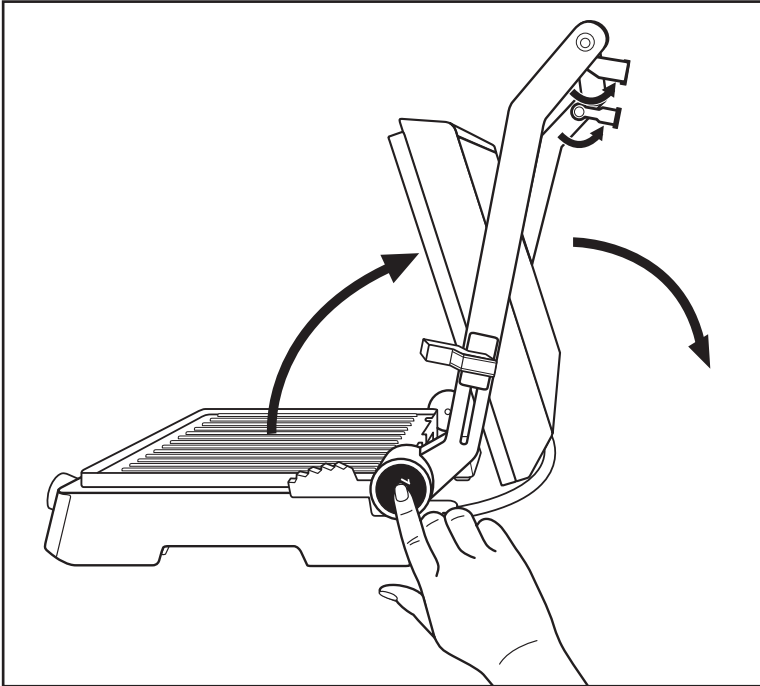

Fig. 1
- 1) Fold out both support feet **1** (Fig. 1).
- 2) Press the unlocking button **3** 180° (Fig. 1) and open the appliance lid until both hotplates **10** can be used as a table grill.